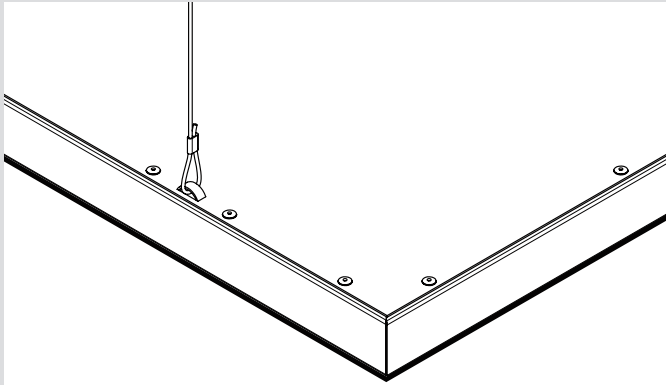

Figure 10
5. Place the panel on the T-bars and suspend the panel from the ceiling using suspension cables. See Figure 10. A suspension cable (not included) must be attached to each of the 4 suspension brackets and secured to the ceiling structure.